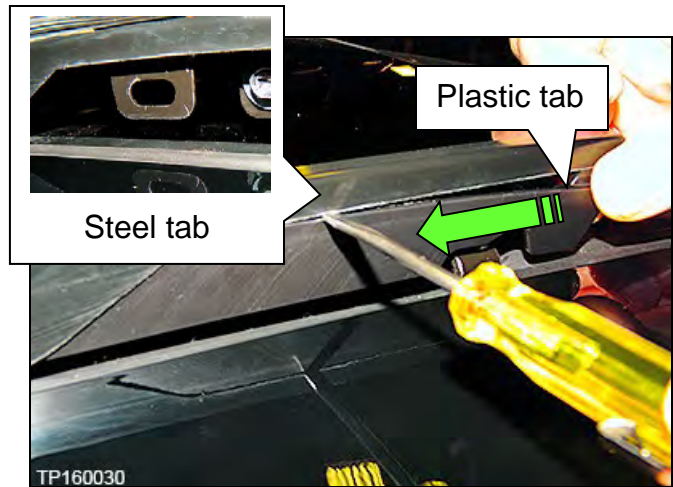

Figure 87
- b. Insert a pocket screwdriver between the Moonroof bolt finisher and the Moonroof in the location shown in Figure 87.